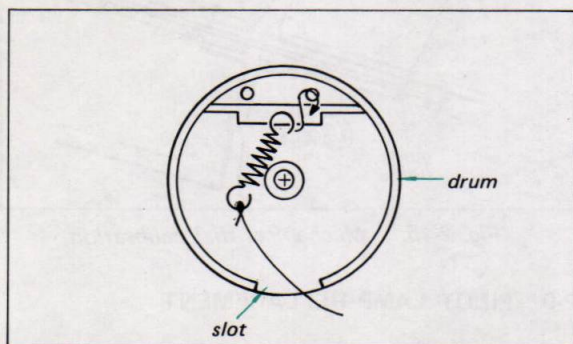

Fig. 2-9. Coil spring installation
1. Hook the spring to one hole of the drive drum as shown in Fig. 2-9, and then squeeze it.